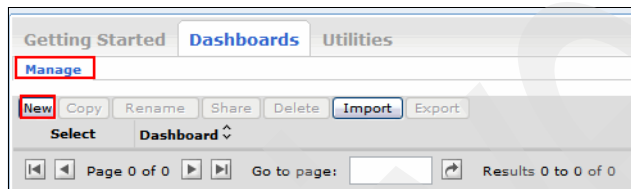

Figure 3-63 Manage Dashboard
4. On the Manage page (Figure 3-63), click the **New** button to create a dashboard.